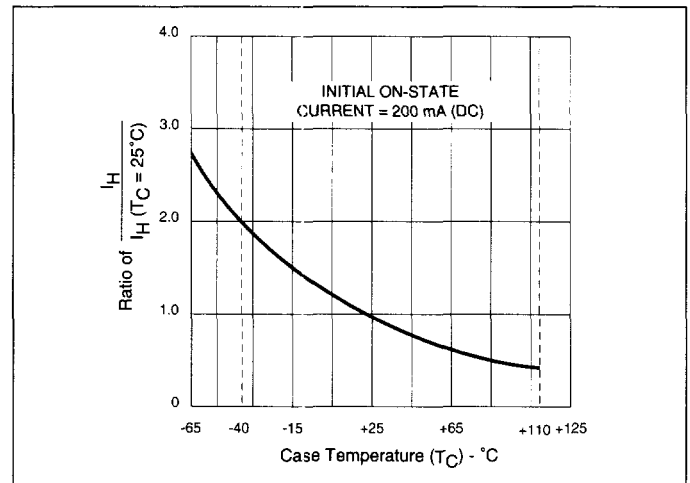

Figure 1.5 Normalized DC Holding Current vs Case Temperature
- (7) See Figure 1.5 for  $I_H$  vs  $T_C$ .